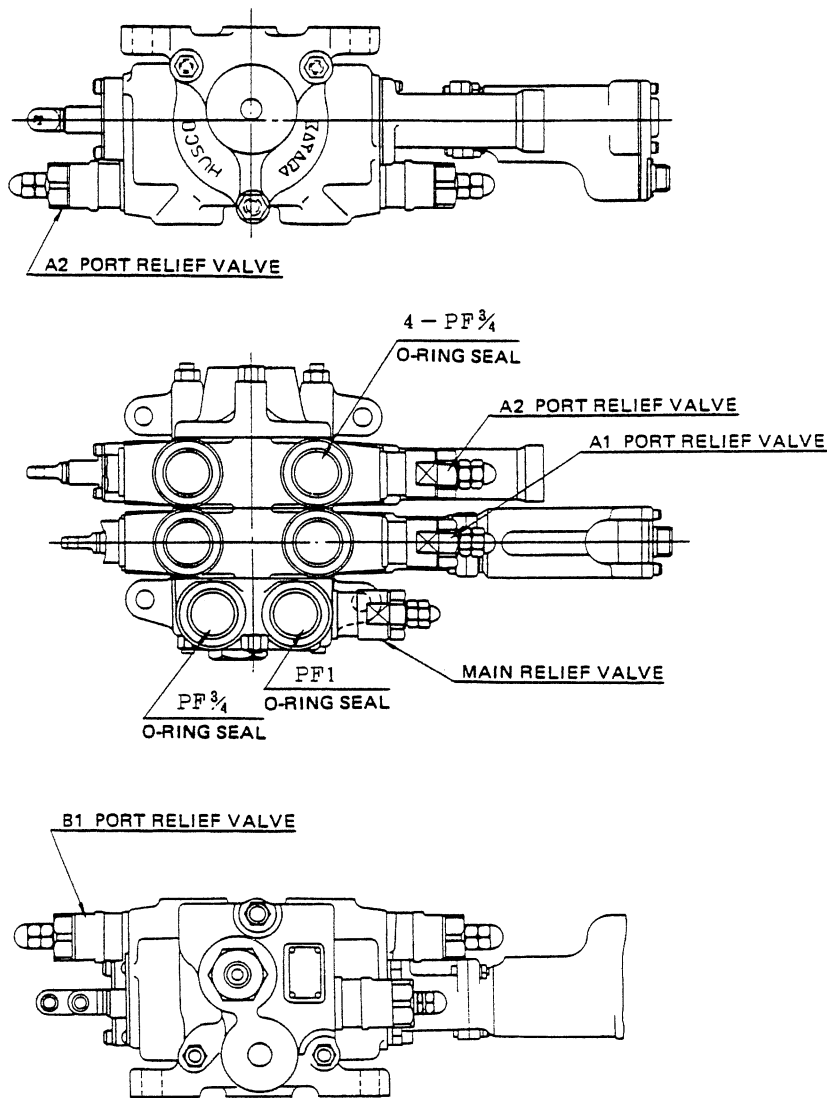

Fig. 8-2
(1) The test equipment required should be able to control the pump supply flow rate between 20ℓ/min and 120ℓ/min, in addition to measuring the flow rate, pressure and temperature.
(2) The set pressure for each relief valve is as follows. Fig. 8-2 shows the positions for attaching each relief valve.